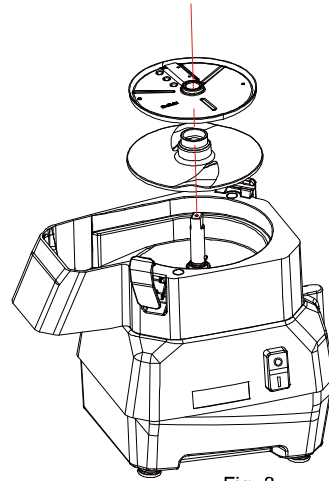

Fig. 3
4.4.3.3 Put the drain disc and cutting disc into output axis, as shown in Figure 3.